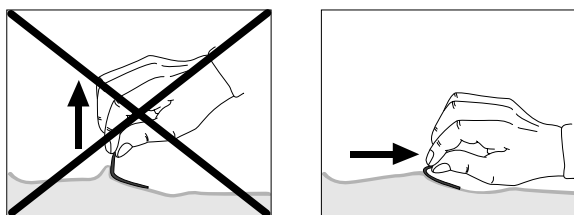

Figure 5-6. Removing the defibrillation pads
- Carefully peel the pads off the patient's skin (Figure 5-6).